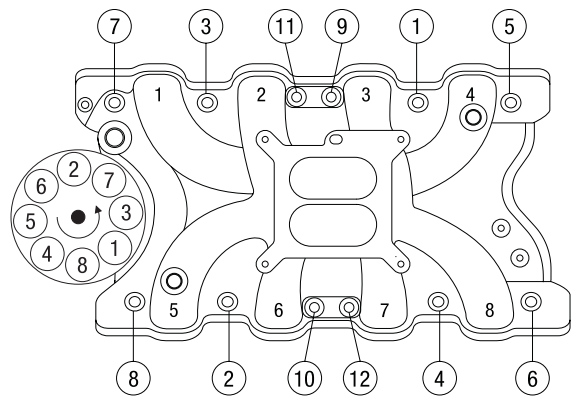

Figure 2 - 351-M/400 Ford Torque Sequence
5. Install the intake manifold and hold-down bolts. Torque all of the manifold bolts in two steps by the sequence shown in **Figure 2** to 25 ft/lbs. For ease of installation, we recommend Intake Manifold Bolt Kit #8574.